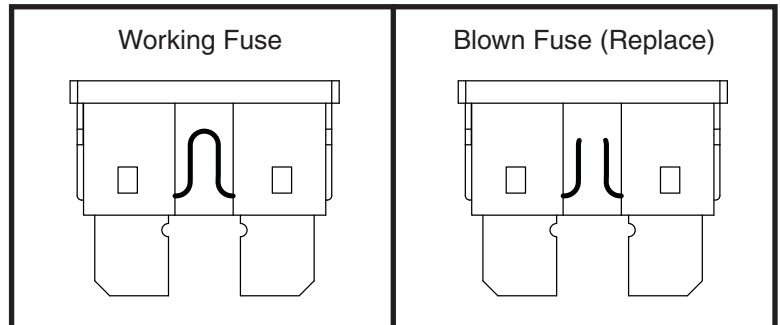

Figure 34. Fuse Replacement
2. Examine the fuse to be sure it is blown. See **figure 34**.